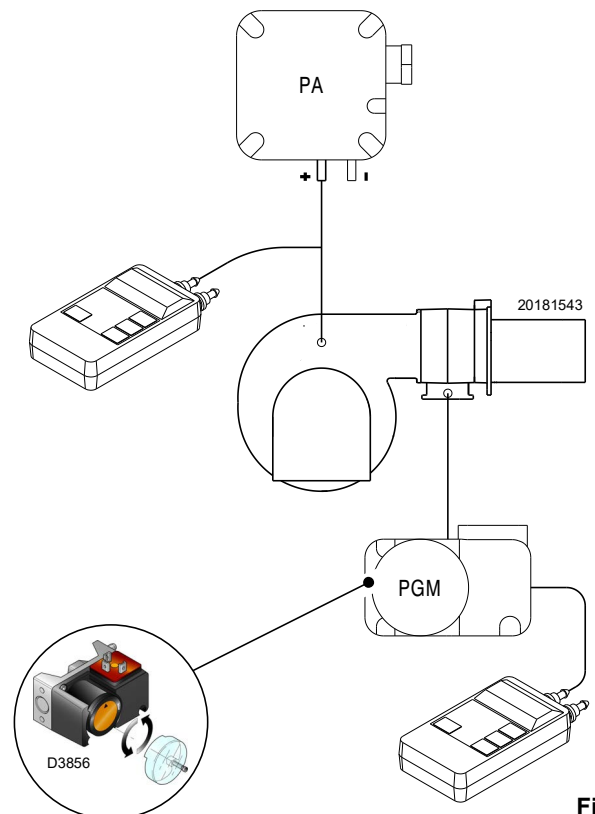

Fig. 30
- Adjust the high gas pressure switch to the upper limit of the scale (Fig. 30 on page 29).
Adjust the maximum gas pressure switch (Fig. 30) after making all other burner adjustments with the maximum gas pressure switch set to the end of the scale.